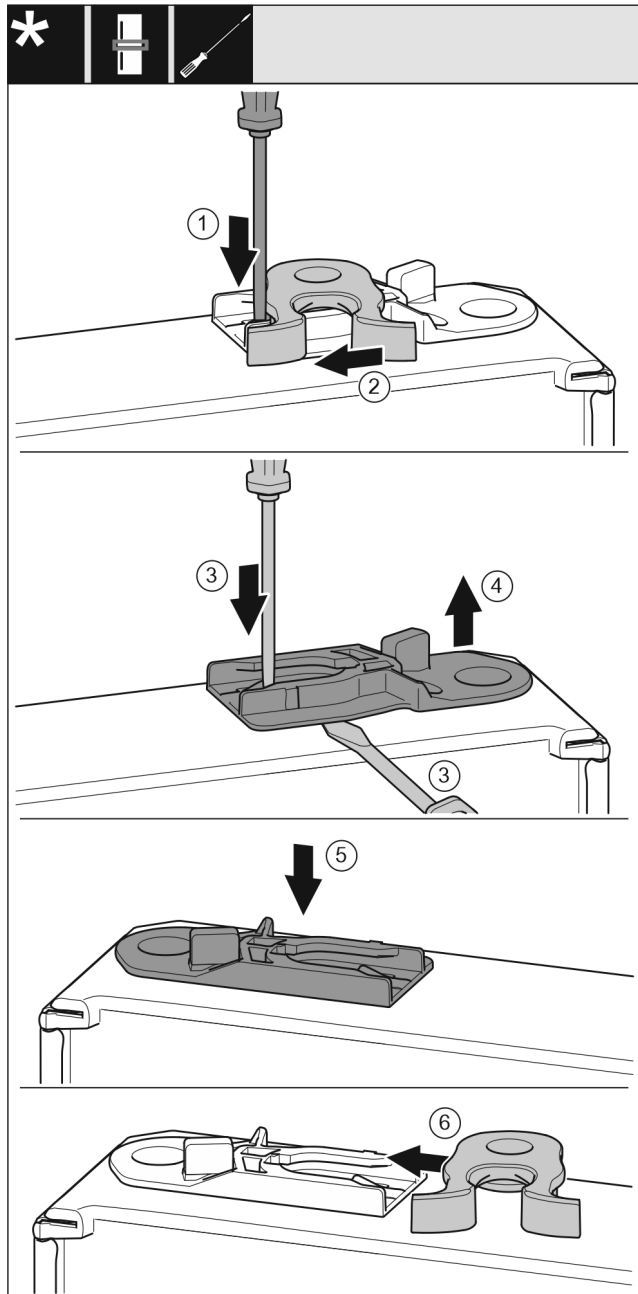

Fig. 19
- Use a slotted screwdriver to push the tab *Fig. 19 (1)* downwards.
- Pull the closing hook *Fig. 19 (2)* out of the guide.
- Pull out the guide bush *Fig. 19 (3, 4)*: Press the tab with a flat-blade screwdriver and at the same time move the flat-blade screwdriver under the guide bush.
- Insert the guide bush *Fig. 19 (5)* supplied on the other side of the housing.
- Slide the closing hook *Fig. 19 (6)* into the guide.